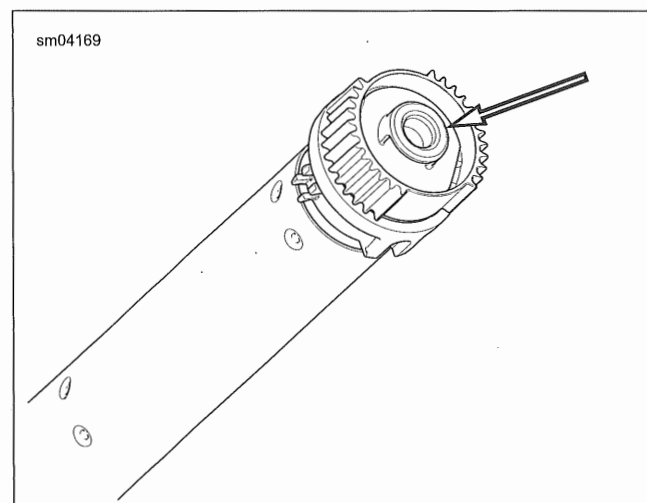

Figure 6-30. Install Seal Cap (Models without heated grips)
See Figure 6-30 The seal cap protects the TGS terminals from dirt and moisture. It also serves as a retention device for the throttle grip.
- b. See Figure 6-30 Install seal cap engaging legs in slots at end of TGS.